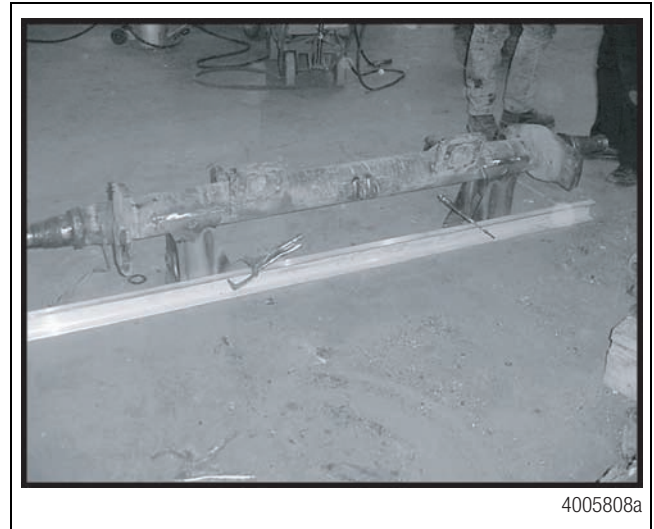
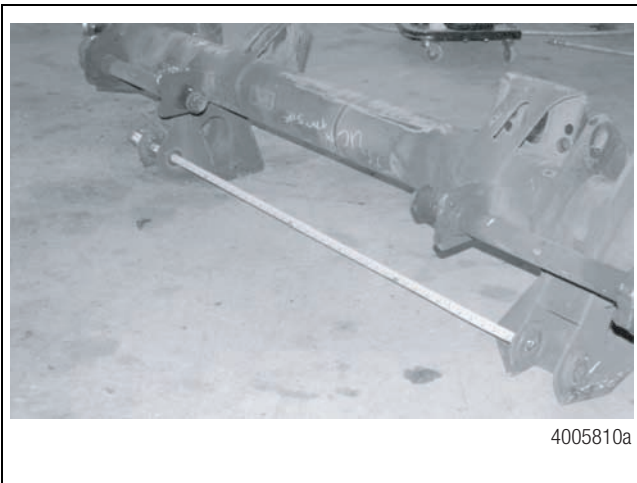
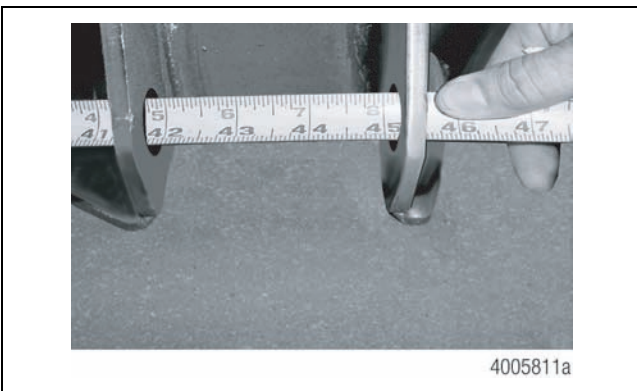
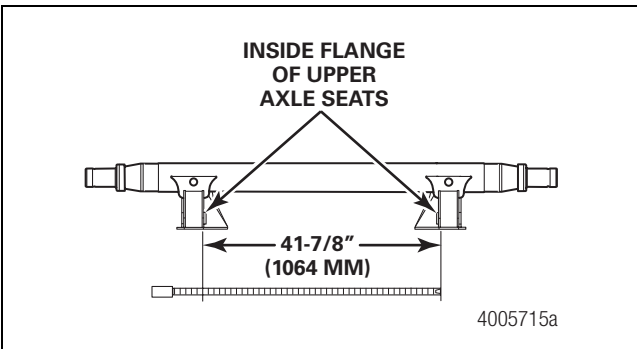

Figure 13
Figure 15
Figure 16
Figure 17
- Place the upper axle seats facing the same direction on a flat surface approximately 42-inches (1067 mm) apart. Install a straightedge against both axle seats. Figure 13.
- Clamp the curbside axle seat to the straightedge. Run a tape measure through the bolt holes. Measure from the inside mounting flange on one axle seat to the inside flange on the other axle seat. Adjust the axle seats to obtain a distance of 41-7/8-inches (1064 mm). Figure 13, Figure 15 and Figure 16.
6. Clamp the roadside axle seat to the straightedge. Recheck the measurement. The distance must be exactly 41-7/8-inches (1064 mm). Figure 13, Figure 15 and Figure 17.
8. Measure and verify that a distance of 41-7/8-inches (1064 mm) still exists between the axle seats. The preferred method of obtaining this measurement is to run a measuring tape through the bolt holes. Ensure that the squaring bar remains in place. Figure 17.